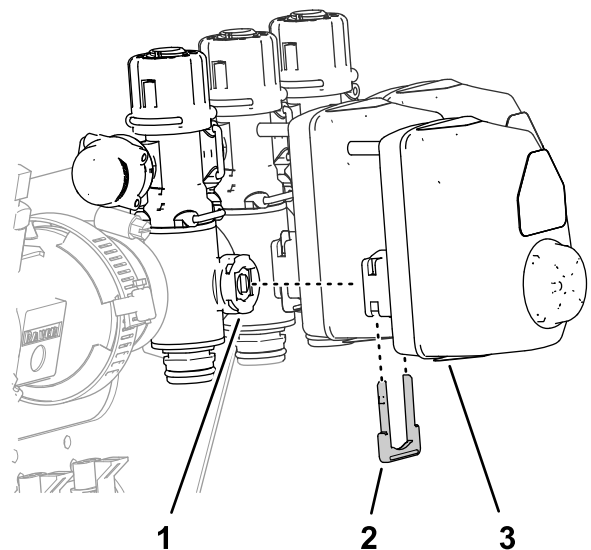

Figure 65
1. Remove the 3 retainers that secure the 3 valve actuators to the left, center, and right section valves (Figure 65).
- Remove the valve actuators from the left, center, and right section valves (Figure 65).
10. Assemble the 3 valve actuators onto the left, center, and right section valves (Figure 65) with the retainers that you removed in step 1.